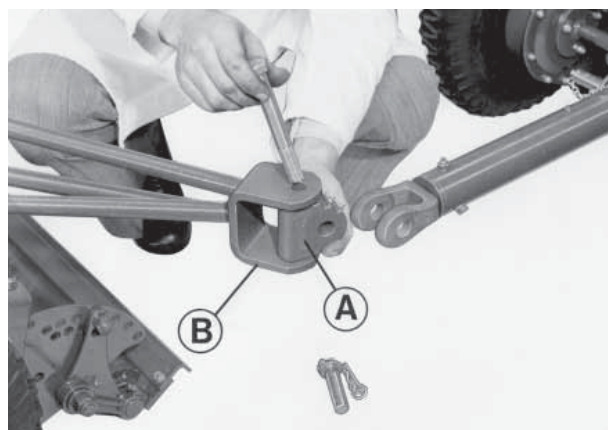

Fig 4
2. (Fig. 4). From two of the short drawbars take the universal couplings (A) and bolt these into the towing points (B) on the extension wings, ensuring that the bolts are not overtightened as this will cause distortion. The universal coupling must be free to swivel. The lubricating nipples must point upwards.